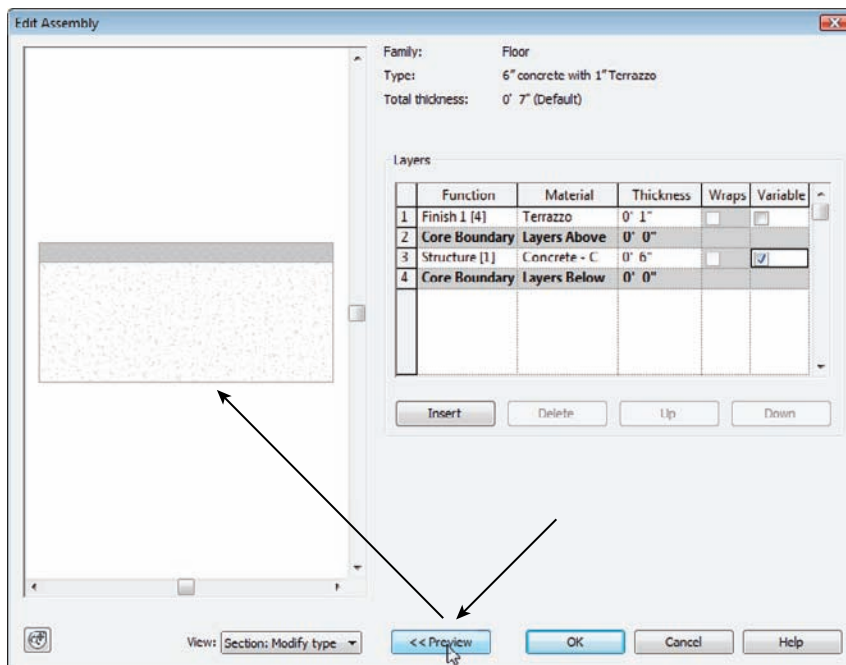

FIGURE 6.24 You can see a preview of the floor section as it is being built.
9. At the bottom of the Edit Assembly dialog box is a Preview button. Click it. After you do, you can see a graphic preview of your floor in a sectional view, as shown in Figure 6.24.